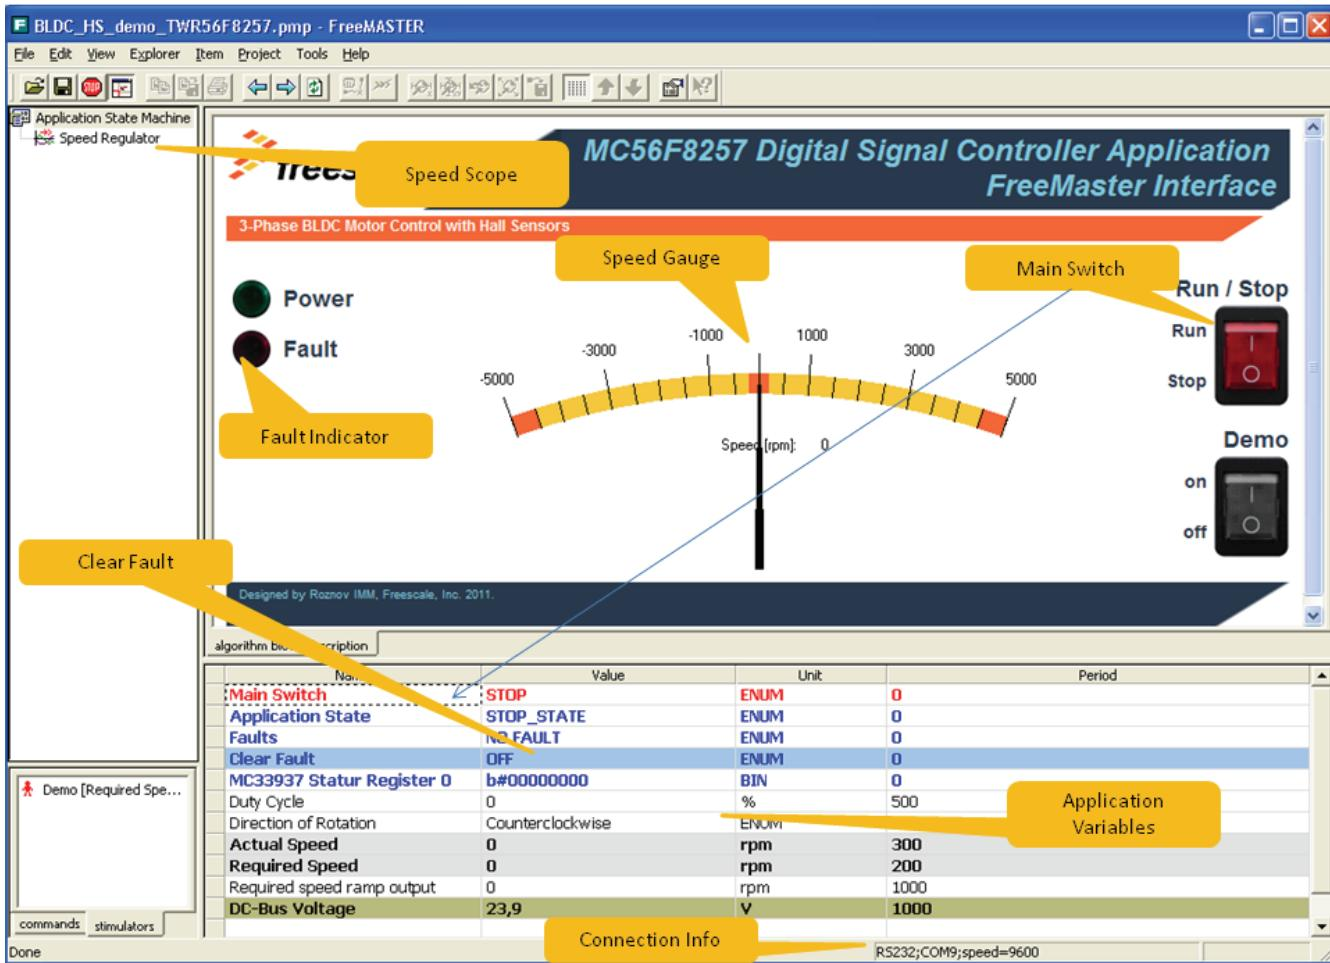

Figure 1-5 FreeMASTER Main Control Page
13. The main control screen should be displayed now, see Figure 1-5 FreeMASTER Main Control Page